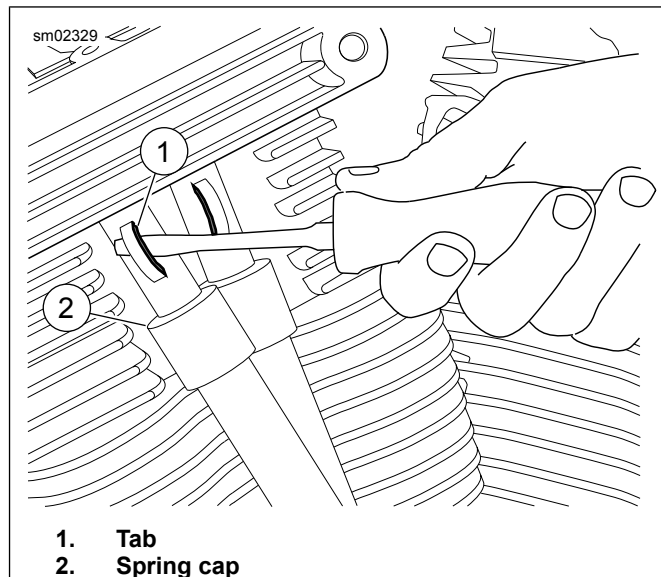

Figure 2. Removing Spring Cap Retainer
- a. See Figure 2. Insert blade of screwdriver in tab (1) of spring cap retainer.
- b. While pushing down on spring cap (2) with special tool, rotate bottom of retainer outboard.